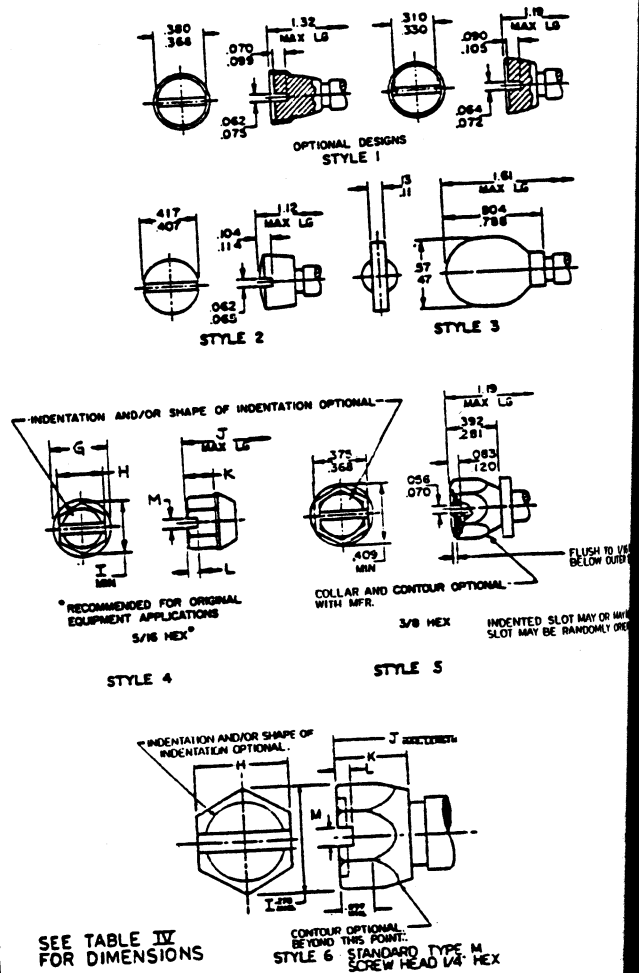

FIG. 2
* Type M Clamps do not have collars as standard. See Style 6 in Fig. 2.